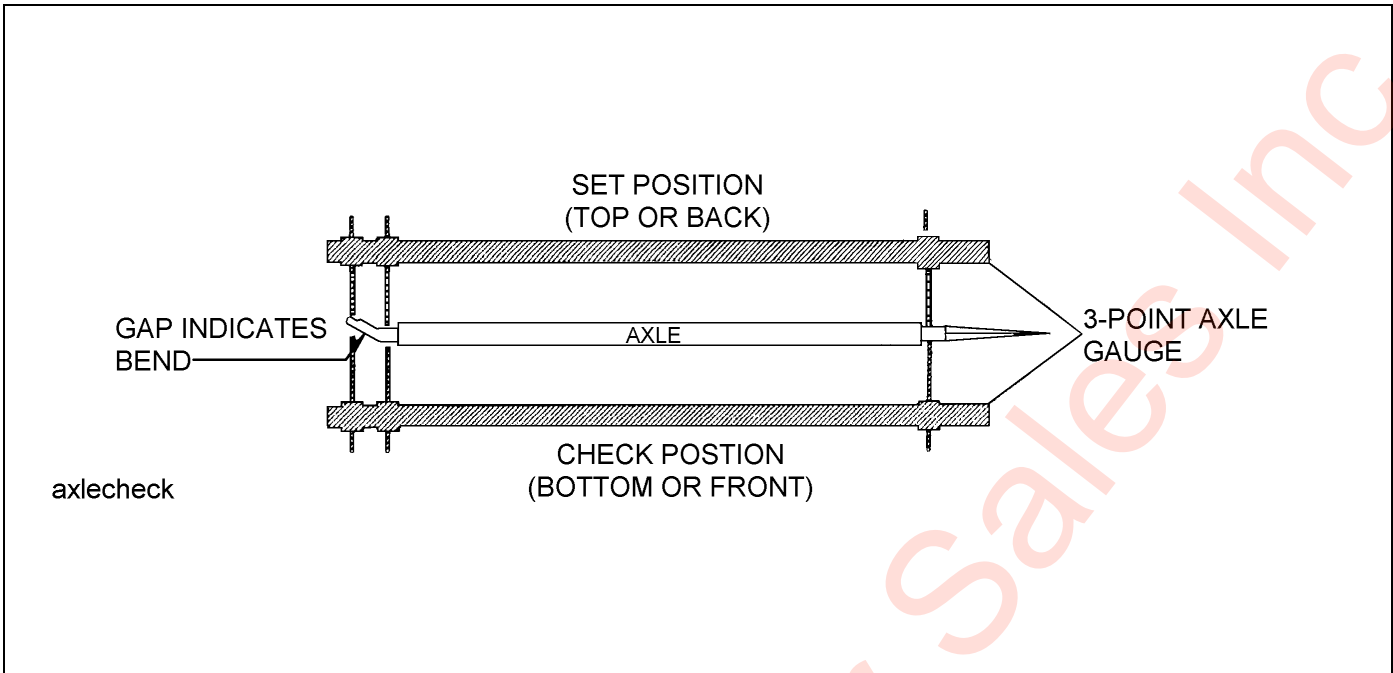

Figure 4-8: Checking Axle for Bend
2. Place a 3-point axle gauge against the front side of the axle, and adjust each axle gauge point to the axle. (Double point end against the inner and outer wheel bearing surfaces of the spindle being checked and the other point on the inner bearing surface on the other spindle.)(See Figure 4-8.)
3. Move the axle gauge and place against the back side of the axle. If either of the points of double point end fails to touch the axle surface, a bent spindle is evident. A point gap of .015" or more is considered excessive tire "toe" and the axle must be replaced (See Figure 4-8.)